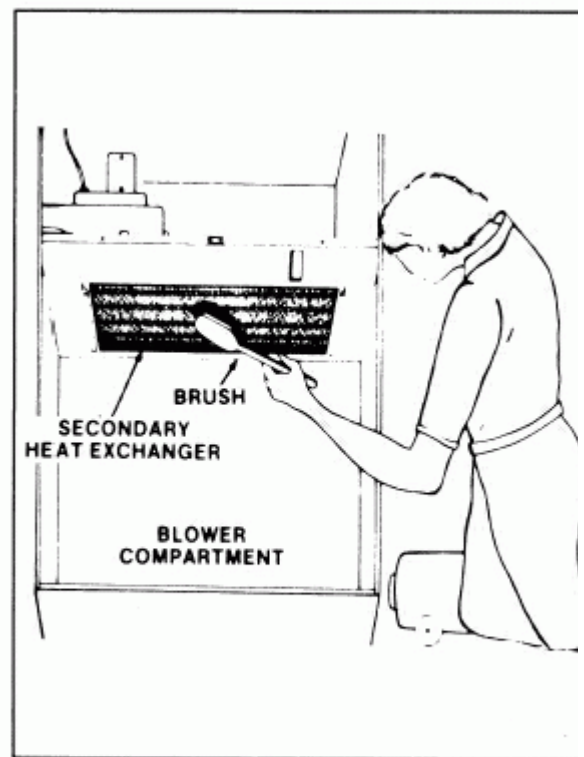

Figure 27
5. Using a stiff bristle brush and a vacuum cleaner, clean dirt and lint build-up from bottom side of Secondary Heat Exchanger. Brush strokes must be with the fin surface to avoid damage to the fins. Use a fin comb to straighten fins, Figure 27.